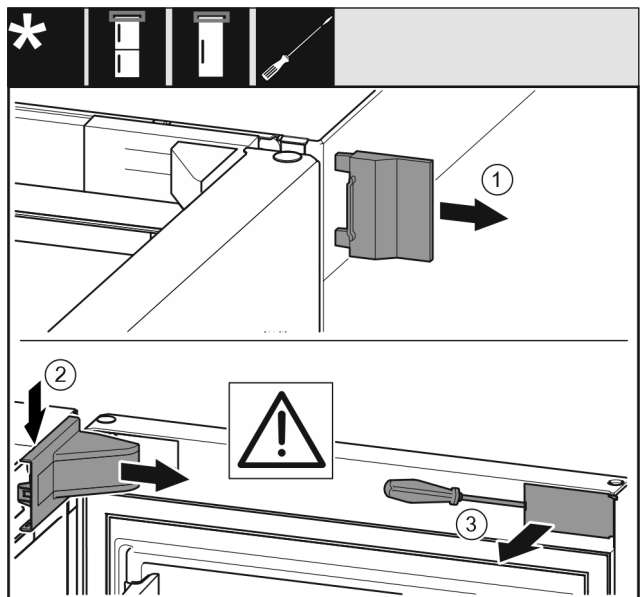

Fig. 12 *
- ▶ Remove the outer cover Fig. 12 (1)*
- ▶ Disengage and remove the swap bearing block cover Fig. 12 (2)*
- ▶ Use a slotted screwdriver to unlatch the trim Fig. 12 (3) and swing it to the side.*